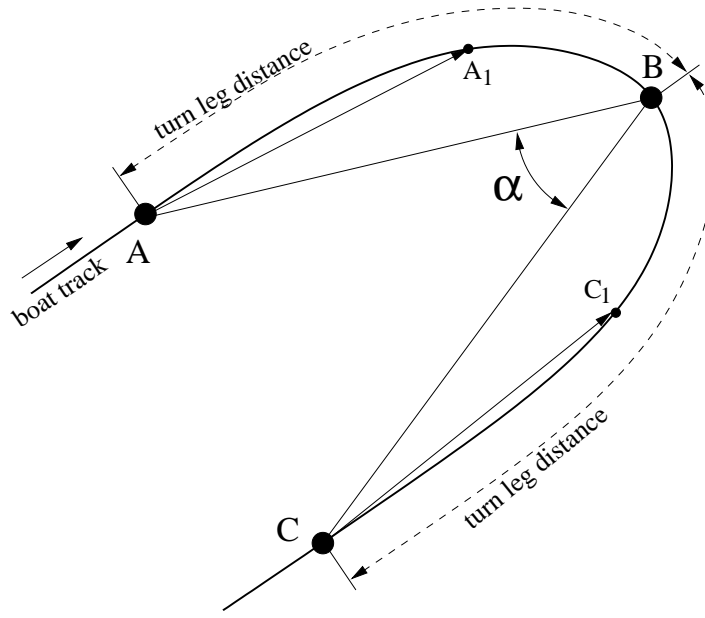

Figure 29: Automatic turn detection algorithm.
Some surveys are recorded continuously without breaking data into set of lines. This is typical for marine surveys performed with a small boat, when the working environment does not permit operator to control logging computer, or for surveys where operator has to also maneuver the vehicle. Magnetometer positions computed on turns have larger errors than positions when the vehicle path is linear, and therefore are generally not used for interpretation and display. The magnetometer can also drop on to the sea floor, get too close to the boat or enter into a dead zone (for Cesium units) yielding unusable data. For these reasons it is generally beneficial to remove turns before data processing. This certainly can be done by hand using the “cut profile” feature, but this operation is time consuming and can be tedious. Another option would be to use a polygon to clip profiles, but this does not work if there are turns inside survey area. Magpick allows automatic turn removal using the simple approach described below. Figure 29 illustrates turn removal method.
1. **Turn leg distance, m.** Distances AB and BC on figure 29.
2. **Max. turning angle, deg.** Angle α from figure 29. If angle is less than this value, points A, B, C are accepted as a turn.